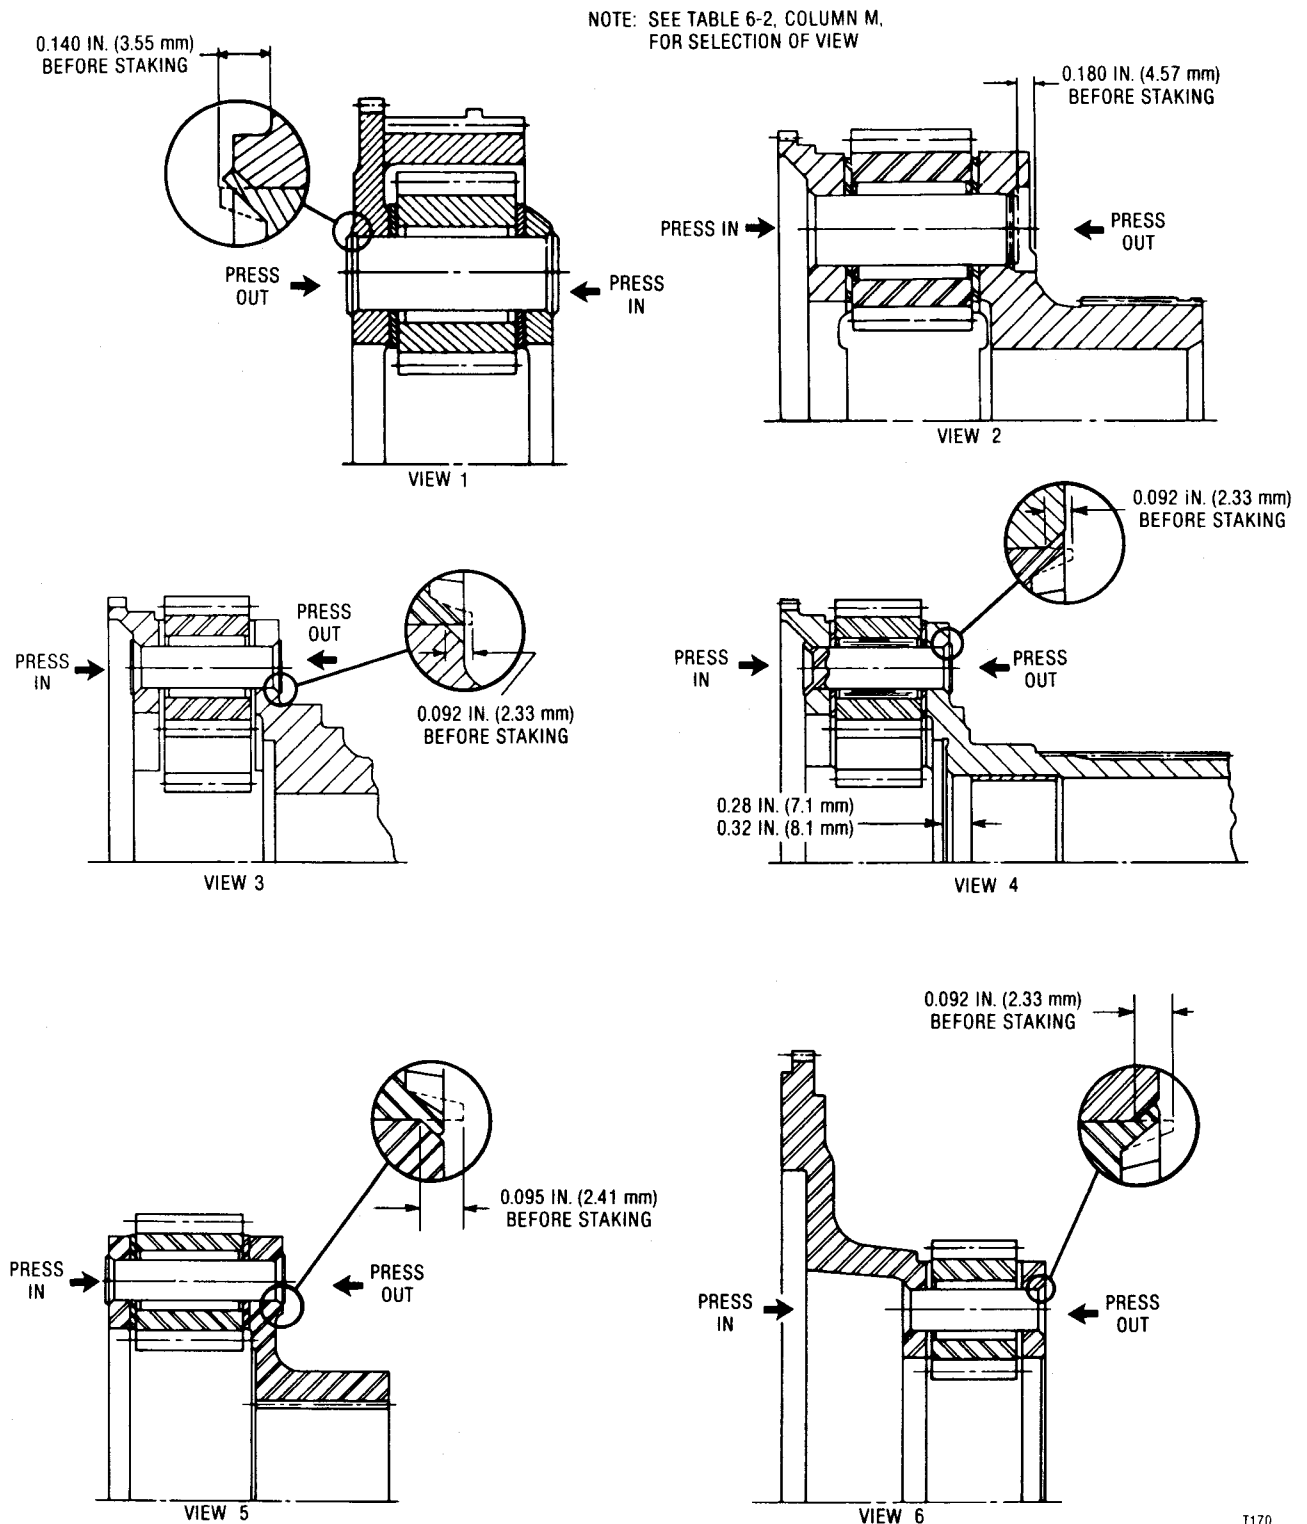

Fig. 6-29. Planetary assembly spindle installation
(2) Use the size drill indicated in Table 6-2, K. Drill into the ends of the pinion spindles (Table 6-2, E), to weaken the swage.
(3) Refer to figure 6-29. Place the carrier assembly (Table 6-2, D) in a press and press out a spindle.
(4) Remove two thrust washers (Table 6-2, F and G), the pinion (Table 6-2, H), and the pinion rollers (Table 6-2, I).
(5) Repeat steps (3) and (4), for removal of the remaining pinion assemblies.
(6) If present, and replacement is necessary, remove the bushing (Table 6-2, J).
(1) If removed, install the bushing (Table 6-2, J) to the depth shown in figure 6-29, View 4.
(2) Chill the new spindles (Table 6-2, E) in dry ice for one hour, or heat the carrier (Table 6-2, D) in an oil bath or oven to 300-350°F (150-176°C).
(6) Remove the aligning tool and install the assembled pinion parts into the planetary carrier (Table 6-2, D). Insert the aligning tool to center the assembled pinion parts with the bore in the carrier.
(7) Refer to figure 6-29. Place the carrier assembly into a press, remove the aligning tool, and start a spindle (Table 6-2, E) into the pinion bore.
(8) Press the spindle into the bore to the indicated dimension. Refer to Table 6-2, L and M, and to figure 6-29.